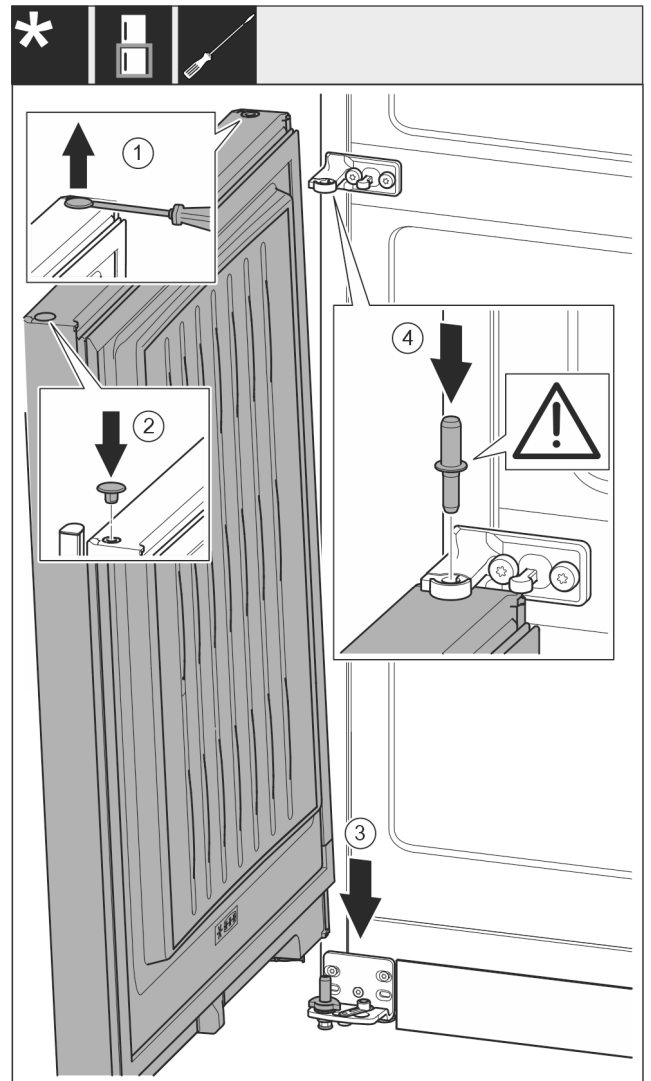

Fig. 19
- ▶ Carefully lift up the plugs with a slotted screwdriver and pull them out. Fig. 19 (1)
- ▶ Insert the plugs again on the other side of the door. Fig. 19 (2)
- ▶ Place the door onto the lower bearing pins from above. Fig. 19 (3)
- ▶ Insert the centre bearing pin through the centre bearing bracket into the lower door. Make sure that the latching lug is pointing to the rear. Fig. 19 (4)